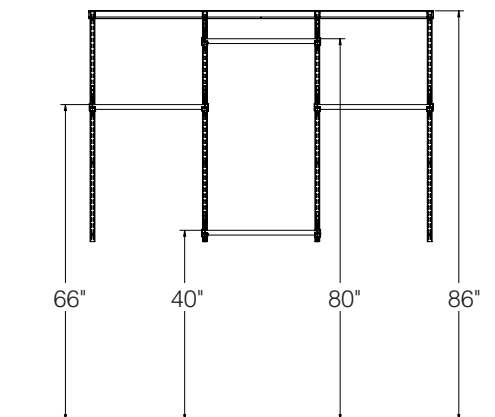

Figure 1
**STEP 1:** Measure 86" from the floor and make two marks on the wall with a pencil (**Figure 1**).
**STEP 3:** Install the hang rail into wall studs (the top of the hang rail at 86") using the provided screws and a level (**Figure 1**).
- Common closet pole heights (measuring from the floor to the top of the closet pole): 66" for a single pole configuration; 40" and 80" for a double pole configuration (**Figure 1**).